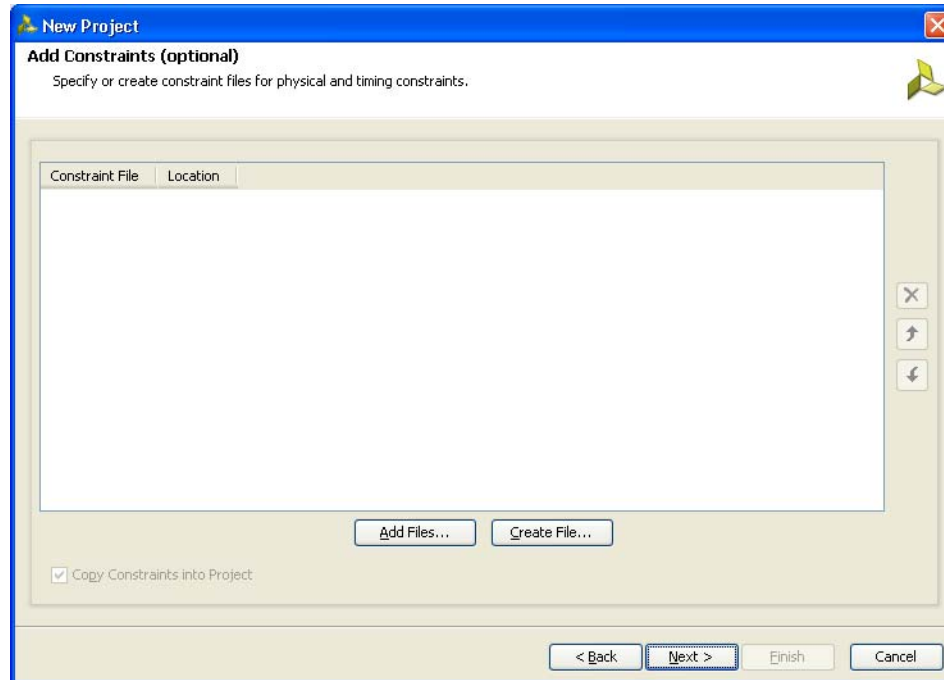

Figure 5-7: Add Constraints (Optional)
- Click **Next** to open the **Add Constraints (Optional)** page (Figure 5-7). If the constraints file exists in the repository, it can be added to the project. Proceed to the next page if the constraints file does not exist.